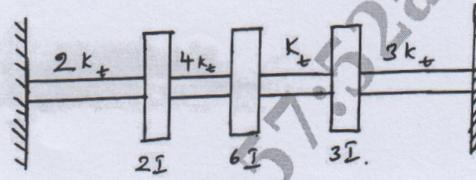

Fig. Q8
- 8 Find the natural frequencies for the system shown in Fig. Q8 by using Holzer's method. (16 Marks)